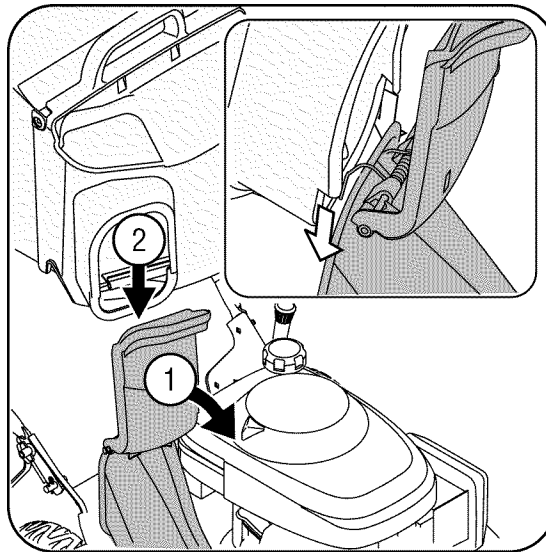

Figure 5
- c. Lift chute door on the grass bag adapter and slide grass bag onto the adapter. See Figure 5.